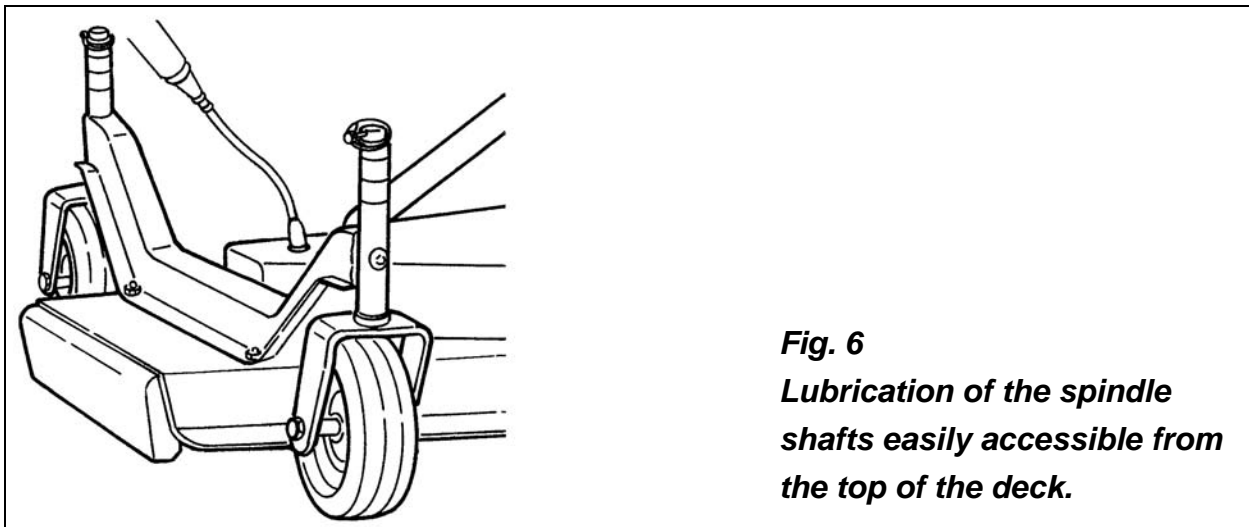
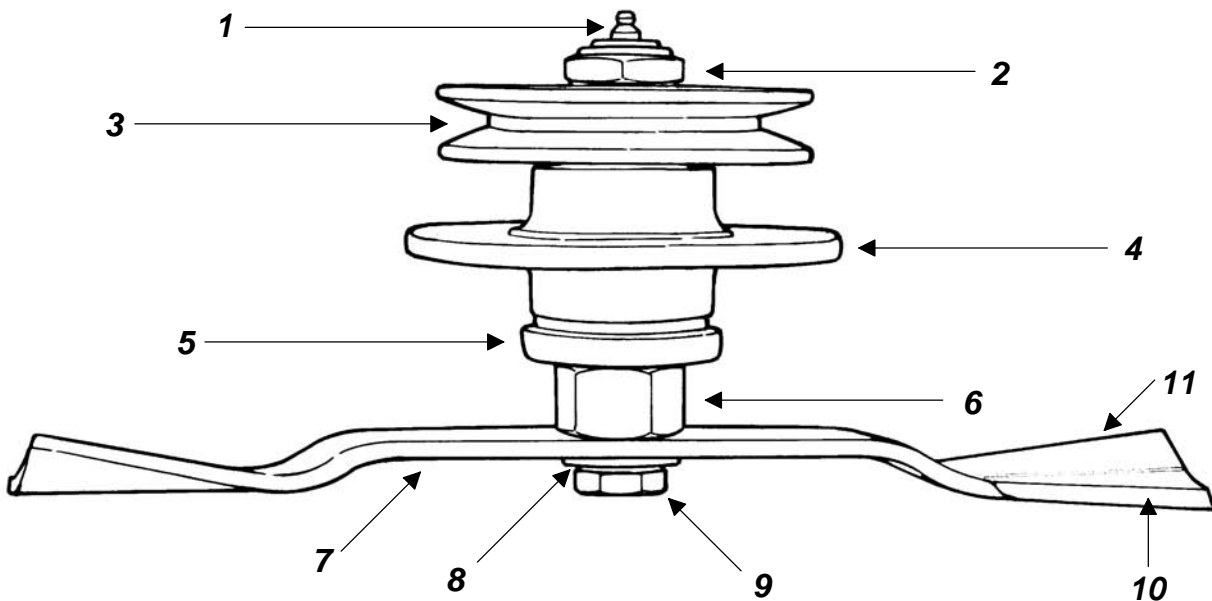

Fig. 6
Fig. 7 - Spindle assembly.
1. Lubricate the three spindles with multipurpose grease (**see fig. 6**). Pump grease until you see it seep through the hole on the bottom cover (**see #5, fig. 7**) of the spindle. The top grease fittings are easily accessible from the top of the deck by simply removing the plastic dust guards.
1. The blade turns in a **counter clockwise** direction when viewed from the bottom of the deck. The cutting edge must be towards the direction of rotation. The lift wing of the blades is closest to the deck and the cutting edge away from it (**see fig. 7**).
2. Install the cup washer (**see fig. 7**) over the blade bolt and secure the blade in place as described above.
2. Remove the nut holding the pulley to the spindle shaft (see fig. 7).
6. Reassemble in reverse order **ensuring that the nut securing the top pulley (see fig. 7) is tightened to 118 lb. ft.**